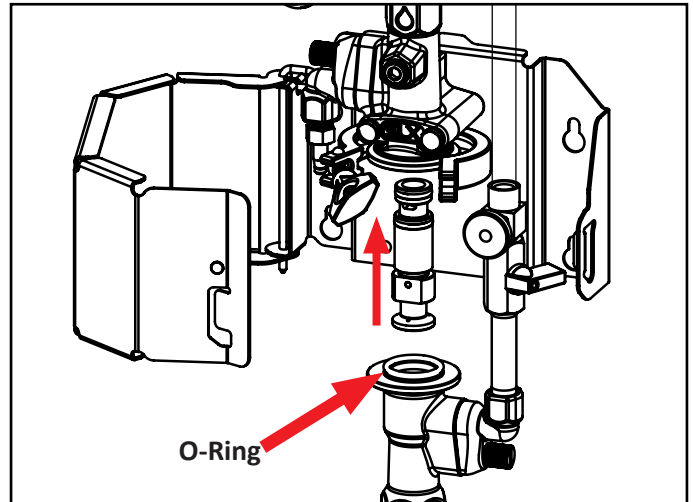

Fig. 9.1: Replacing venturi insert and foamer body
7. Replace insert with clean or new version by sliding it back into the upper venturi body, o-ring section first. [Fig 9.1]